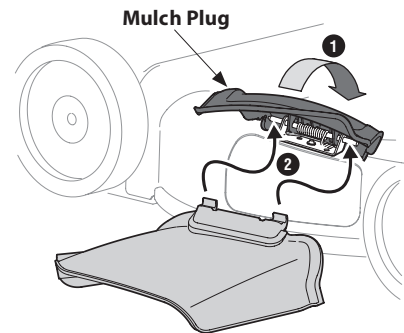

Figure 2-8
1. On the side of the mower, lift the mulch plug. See Figure 2-8.